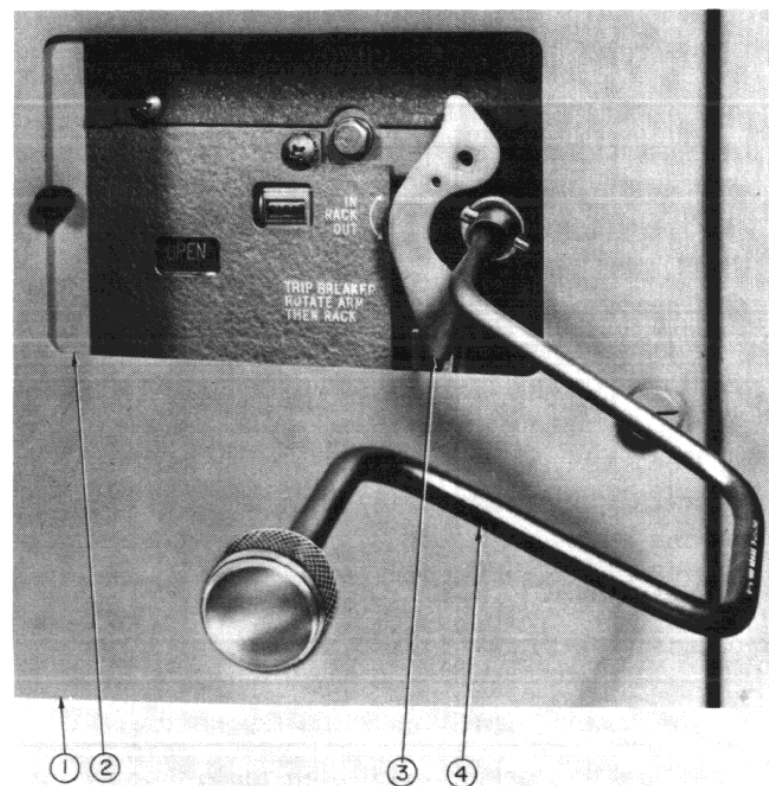

Fig. 3 — Method of Racking Circuit Breaker
2. Engage racking crank (4, Figure 3) and push racking unlocking lever (3) to left, then rotate racking crank counterclockwise only until resistance to motion is felt. (DO NOT FORCE.)
5. To rack circuit breaker to "TEST" position, push racking unlocking lever (3, Figure 3) to left, rotate
**FOR SAFETY:** When racking circuit breaker to "CONNECTED" position, close compartment door (1, Figure 3) and insert racking crank (4, Figure 3) through sliding panel (2, Figure 3).
7. Push unlocking lever (3) to left and turn racking crank (4) approximately 1/4 turn clockwise, then release unlocking lever. Continue cranking until racking mechanism automatically stops at "CONNECTED" position.
(See Figure 3)